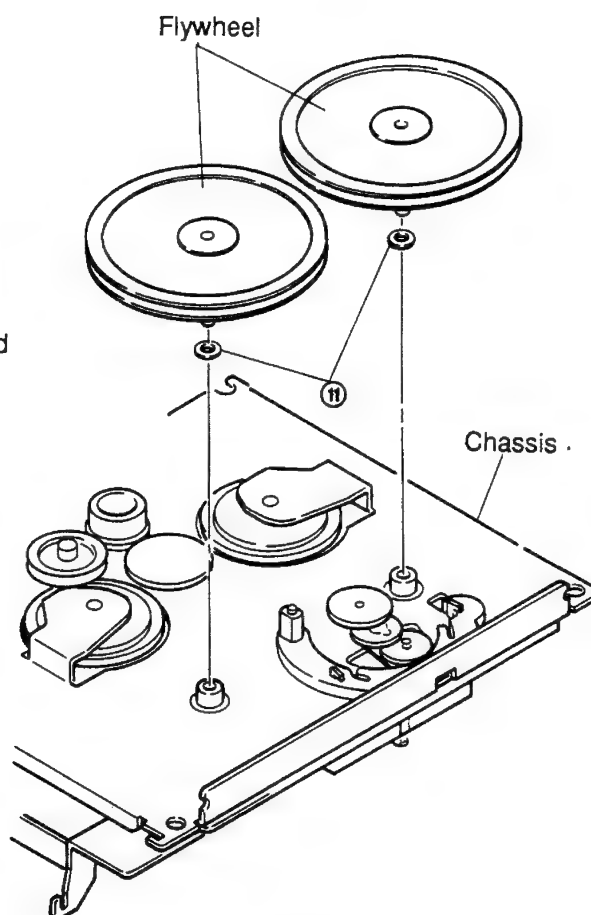

Figure 12
- (1) After removing the belt, pull out the two flywheels. Take care not to loose the polyslider washer ⑩ located between the flywheel and the chassis. (Refer to Figure 12.)
- (2) Fix the polyslider washer to the new flywheel and mount the flywheel to the chassis.